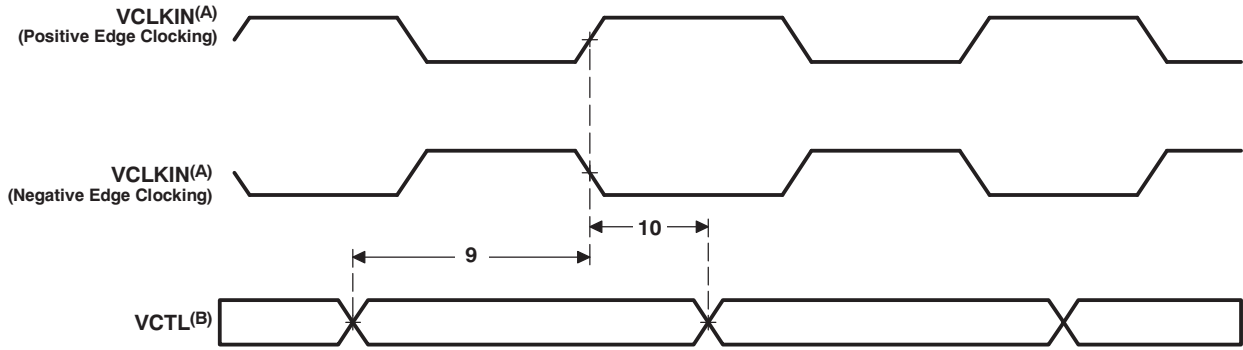

**Figure 5-27. VPBE PCLK and EXTCLK Timing**
**Table 5-21. Timing Requirements for VPBE CLK Inputs (see Figure 5-27)**